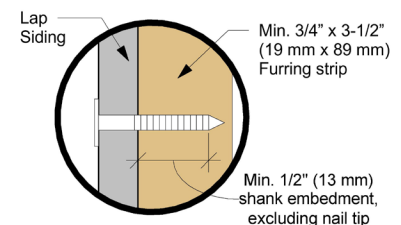

Figure 1
- Length = fastener shall fully penetrate a min. 1/2 inch (13 mm) into nailable furring. **Caution:** fastener shall not bottom out on concrete or masonry wall leaving the fastener head less than flush with the face of trim or siding. (Figures 1)